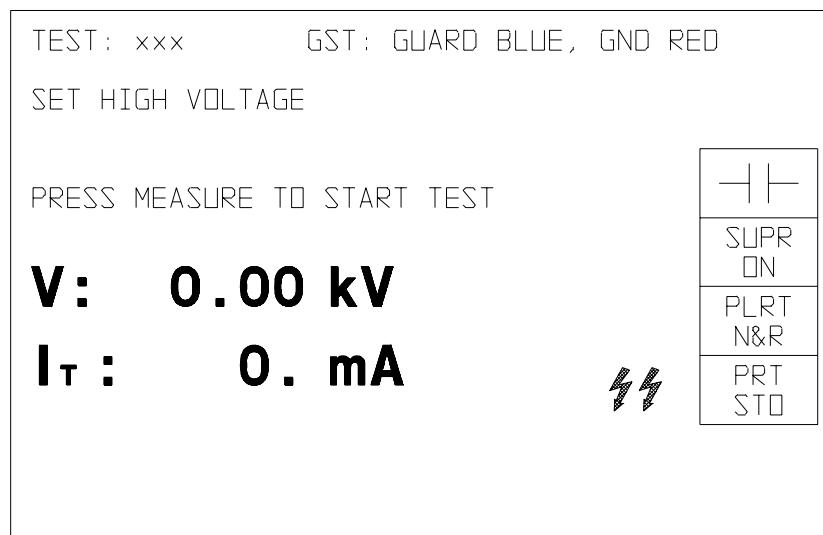

Figure 15: Second Test Screen
Second Test Screen (Fig. 15)
After energizing high voltage, a second test screen will appear (Fig. 15). The test number (when data key is inserted) and lead configuration are displayed on the first line. The two lightning bolt symbol will appear, indicating that high voltage is present.
The red HIGH VOLTAGE lamp will remain lit, indicating that the high-voltage circuit is still enabled. The two lightning bolt symbol shown in Figures 15 and 16 is not displayed, indicating that the test voltage has been removed from the specimen.
Pressing the RECALL VOLTAGE button will bring up the second test screen (Fig. 15). The test voltage will be the same as that of the last test performed. If desired, the operator may change the test voltage.
15. Press the RECALL VOLTAGE button to reapply high voltage (same voltage as that of the last test conducted) to the specimen without a zero restart of the high voltage circuit (if necessary, readjust the HIGH VOLTAGE CONTROL to obtain the desired test voltage). Pressing the RECALL VOLTAGE button will bring up the second test screen (Fig. 15).